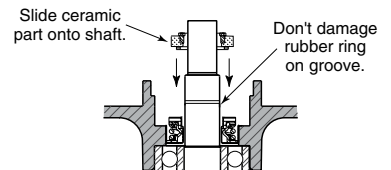

Figure 4
4. Turn assembly upside down and slide new rotating member of seal onto shaft. Apply soap to rubber ring to aid in sliding seal on shaft. **NOTICE:** De-burr snap ring groove before installing seal. Do not damage ceramic face or rubber ring when passing seal over shaft shoulder and snap ring groove shoulder. Seal faces and ring must be clean and undamaged or seal may leak. See Figure 4.